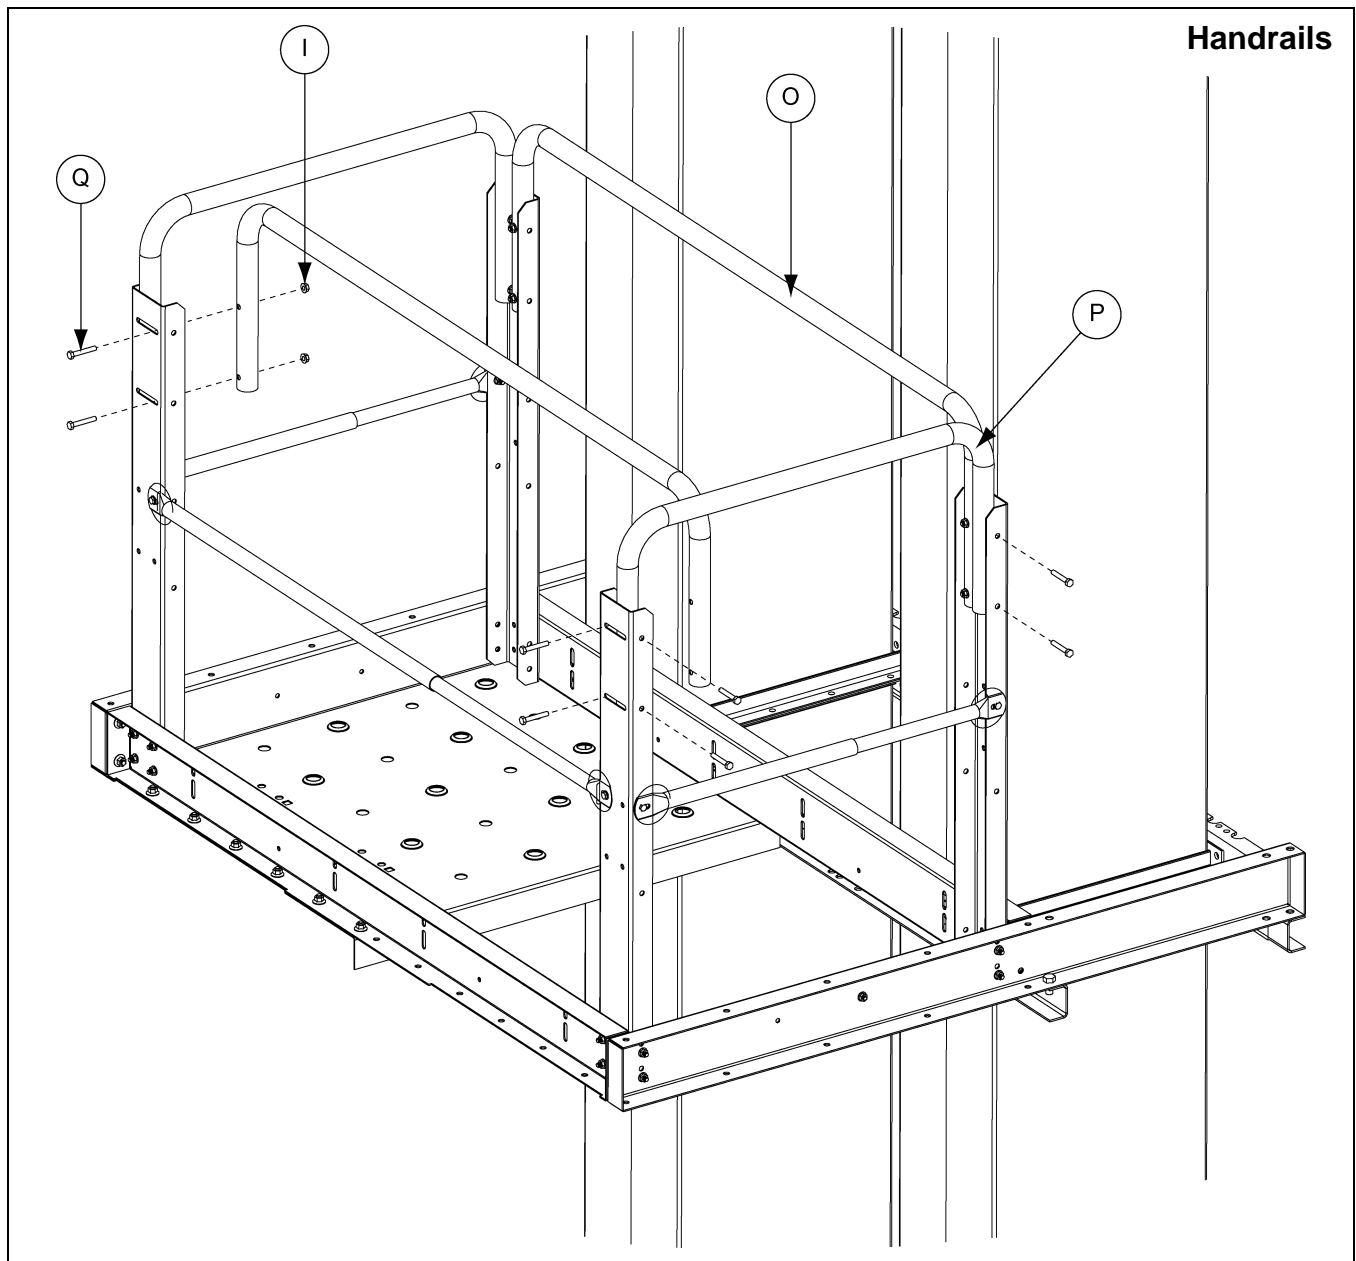

Figure 7K
7. Connect the front rest platform handrails and the side rest platform handrails to the handrail platform post using 5/16" x 2" hex bolts (S-7877) (Q). (See Figure 7K.)